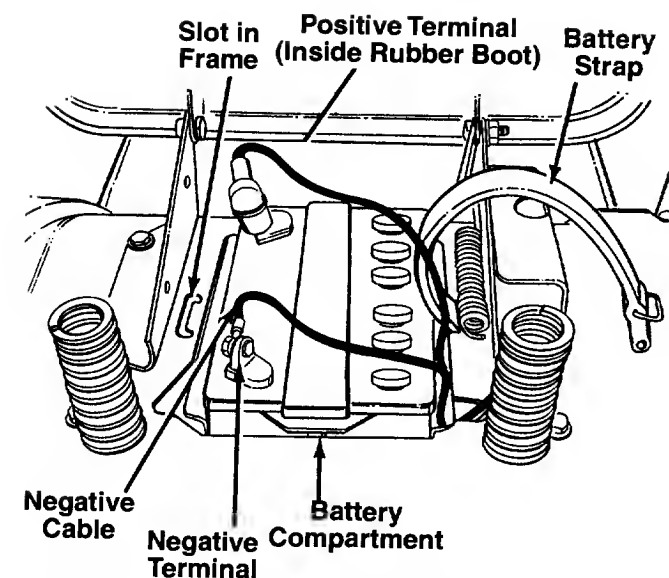

FIGURE 4.
2. Make certain both the negative (black) cable and the positive (red) cable are routed up through the battery compartment as shown in figure 4.